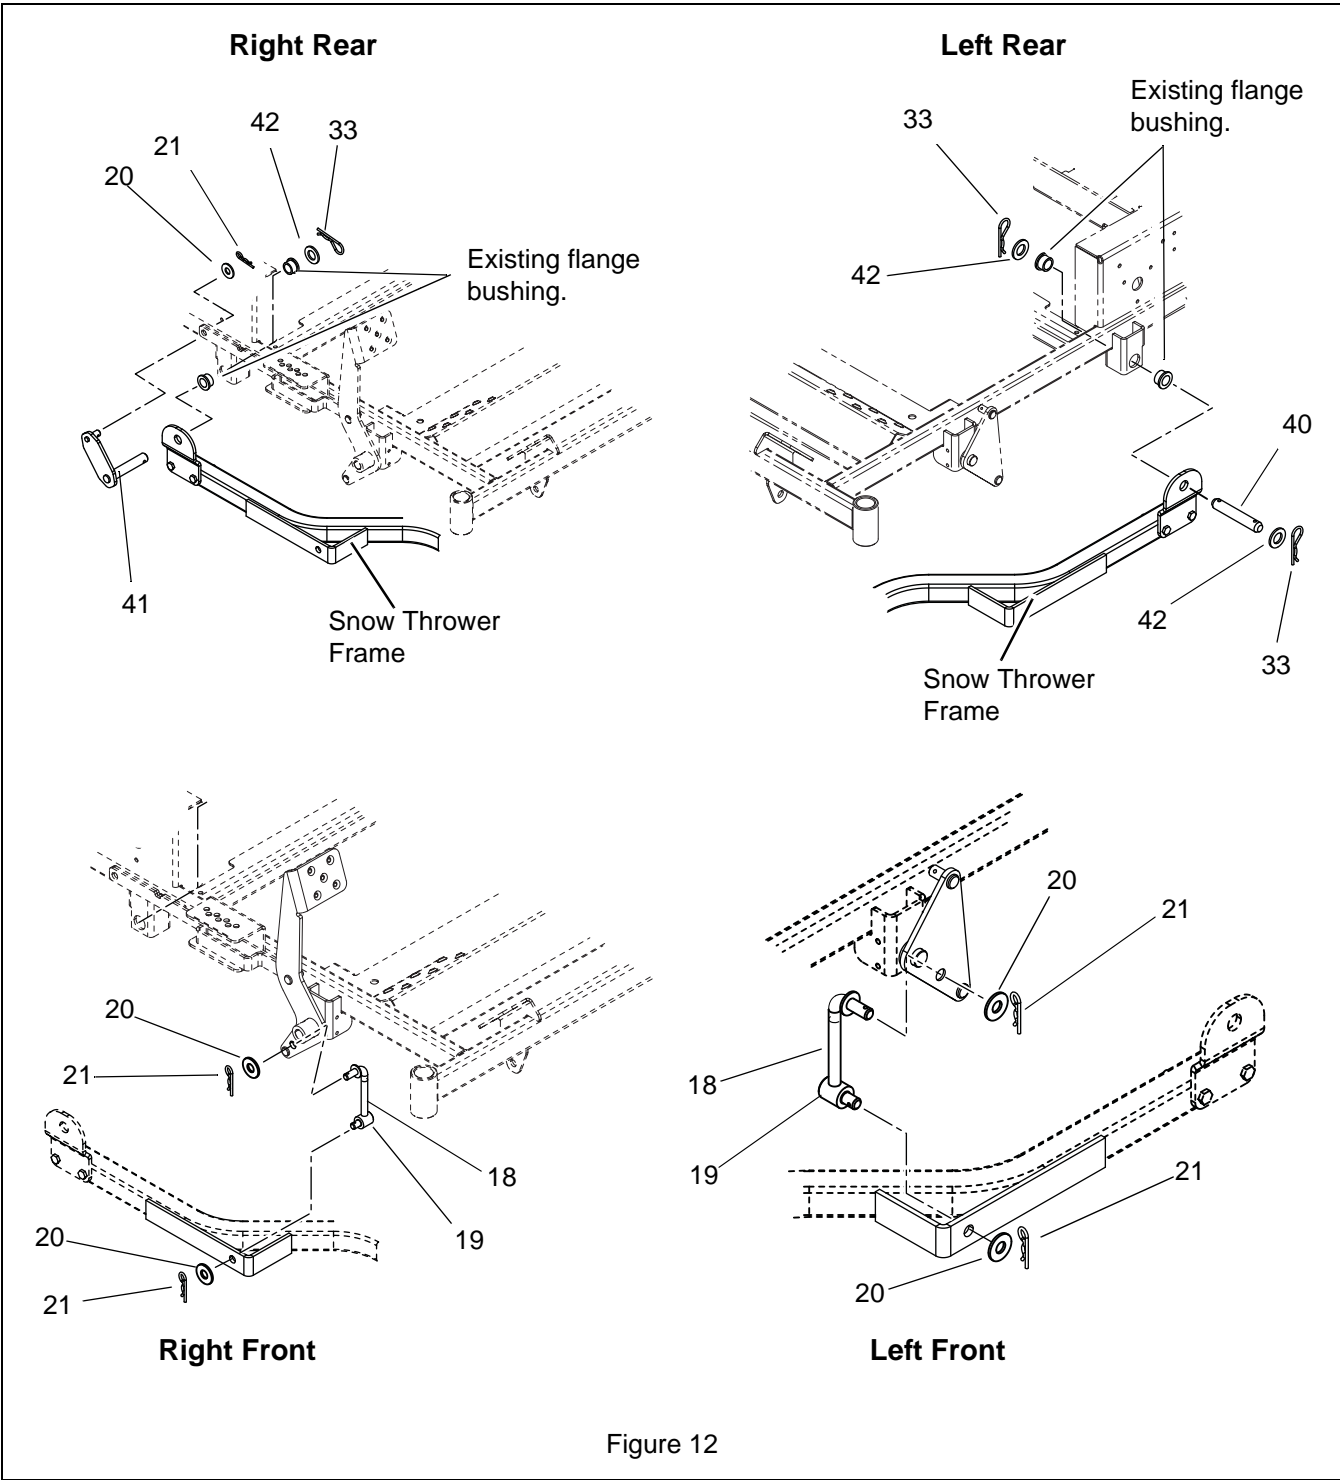

Figure 12
Install Snow Blade Frame on Unit (Figure 11 and Figure 12)
4. Connect the snow blade frame to the left side of the unit with the flange bushings removed in step 3, left rear pivot pin (item 40), two 13/16 x 1-1/2 x 9/64 flat steel washers (item 42) and 5/32 x 2-15/16 internal hair pins (item 33). See Figure 12.
5. Connect the snow thrower frame to the right side of the unit with flange bushings removed in step 3, right rear lift pivot bracket (item 41), one 1-1/4" flat steel washer (item 20) and #16 hair pin (item 21), and one 13/16 x 1-1/2 x 9/64 flat steel washer (item 42) and 5/32 x 2-15/16 internal hair pin (item 33). See Figure 12.
6. Install 1/2" trunnions (item 19) on lift links (item 18).
7. Install a lift link (item 18) on front lift weldment and on the lift pedal with a 1-1/4" flat steel washer (item 20) and #16 hair pin (item 21). See Figure 12.
8. On each side of the unit connect 1/2" trunnion (item 19) to the snow thrower frame with 1-1/4" flat steel washer (item 20) and #16 hair pin (item 21). See Figure 12.
6. Replace the left and right rear lift brackets and secure with retaining rings removed in step 3 of (Figure 11 and Figure 12) on page 9.